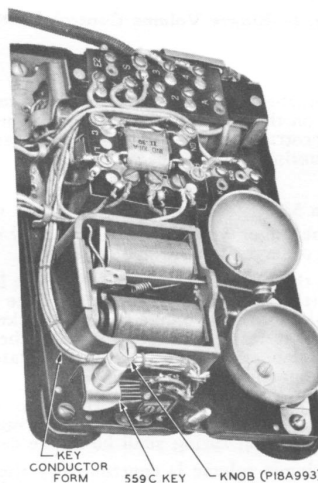

Fig. 7—Base of 5410-type Telephone Set
7.01 The 559C key used with the 5410-type telephone set is equipped with a P-18A993 knob which is approximately 5/16 inch longer than the knob now used on the 559A key (see Fig. 7).